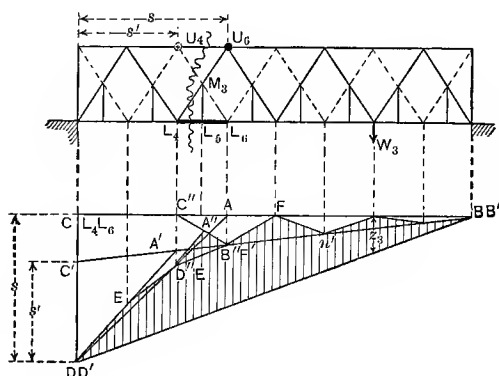

FIG. 24.
**Bottom Chord of Sub-divided Double Triangular Truss.**—The bottom chord member  $L_4L_6$ , Fig. 24 is a part of the
Following the general rule for constructing influence diagrams, with  $D''C''$ , Fig. 24, equal to  $s'' = L_4L_5$  multiplied by  $L_4U_4 \div L_5M_3$ , the diagram  $D''A''B''$  is obtained. The ordinates are increased in the same ratio as the ratio of the lever arms of  $L_4L_6$ . The shaded area is the influence diagram for  $L_4L_6$ . This is simply the proper combination